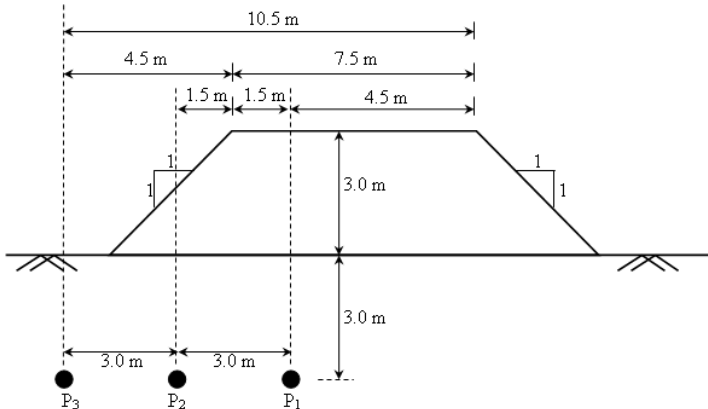
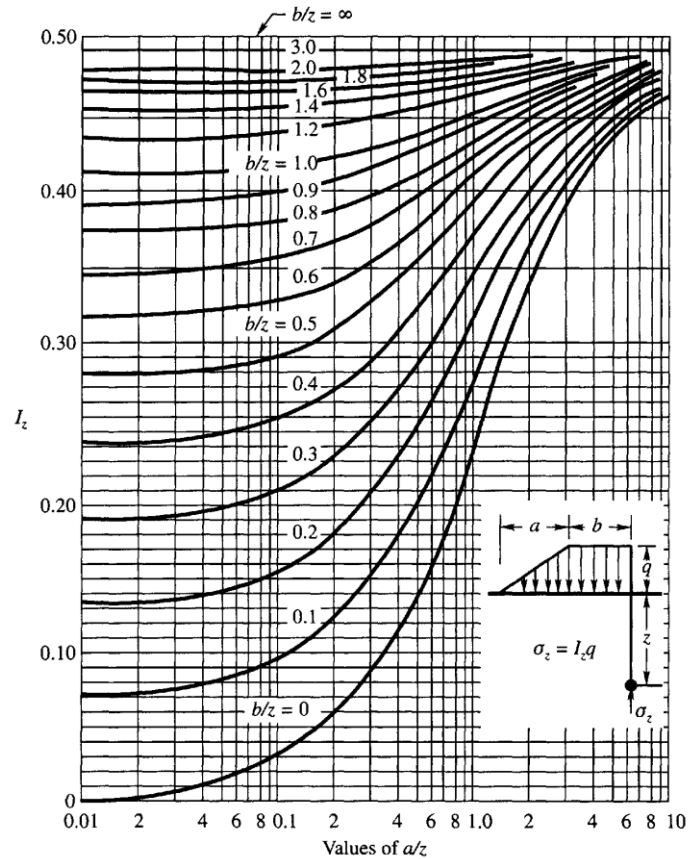

Fig.6
Fig.7
- (b) A 3 m high embankment is to be constructed (Figure 6). If the unit weight of the soil used in the embankment is  $19.0 \text{ kN/m}^3$ , calculate the vertical stress due to the embankment loading at points  $P_1$ ,  $P_2$  and  $P_3$  using Figure 7 for influence coefficient given with the problem.